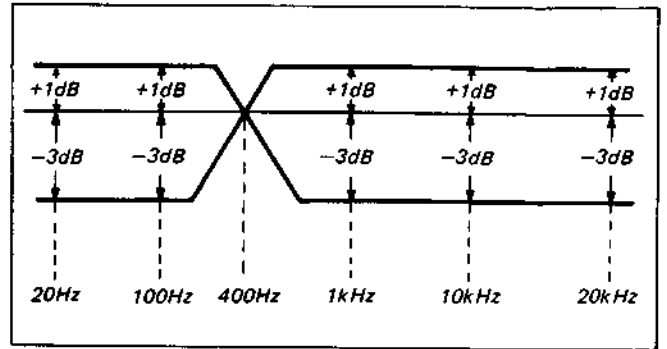

Fig. 5-48. Overall frequency characteristic check
- (1) Feed a 400 Hz signal to the audio line input. Set up the E-E mode and adjust the attenuator so that the audio line output level becomes  $-10$  dB.
- (2) Record the signal.
- (3) Change the frequency to 20, 100, and 400 Hz, as well as to 10 kHz and 20 kHz, then repeat Steps (1) and (2).
- (4) Play back the recorded part and check that the output levels are inside the standard. (See Fig. 5-48.)